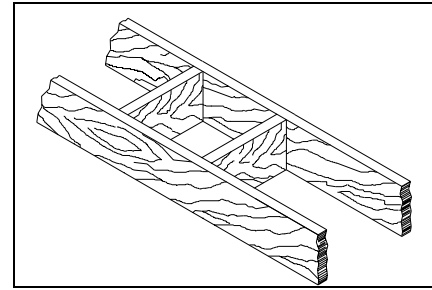

Figure 22
1. Cut and frame the holes in the ceiling, floor and roof where the chimney will pass (see figure 22). Use a plumb bob to line up the center of the holes. The sizes are indicated in table 1 for the floor and ceiling holes and table 2 (page 24) for the roof holes.